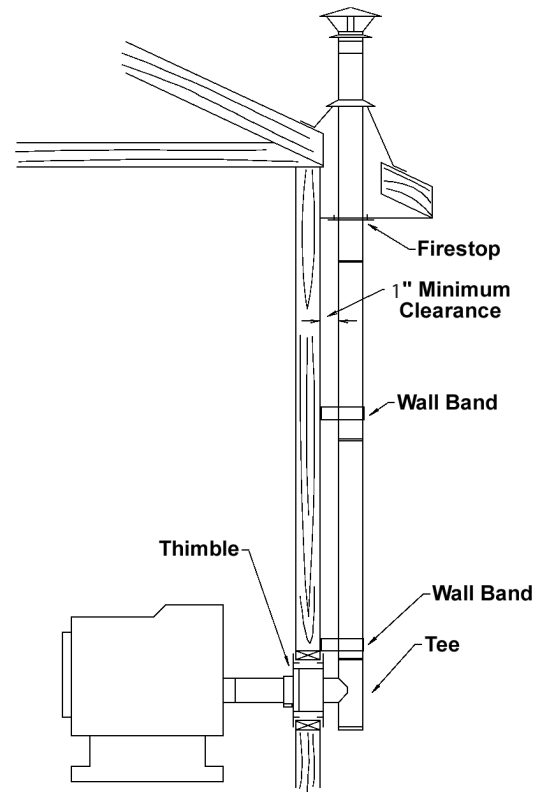

Figure 6
- 3.1 Follow instructions 2.1 to 2.5. See Figure 6.